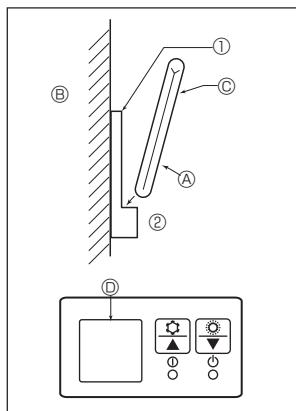

Fig. 6-7
2) Installation method (Fig. 6-7)
- ① Attach the remote controller holder to the desired location using 2 tapping screws.
- ② Place the lower end of the controller into the holder.